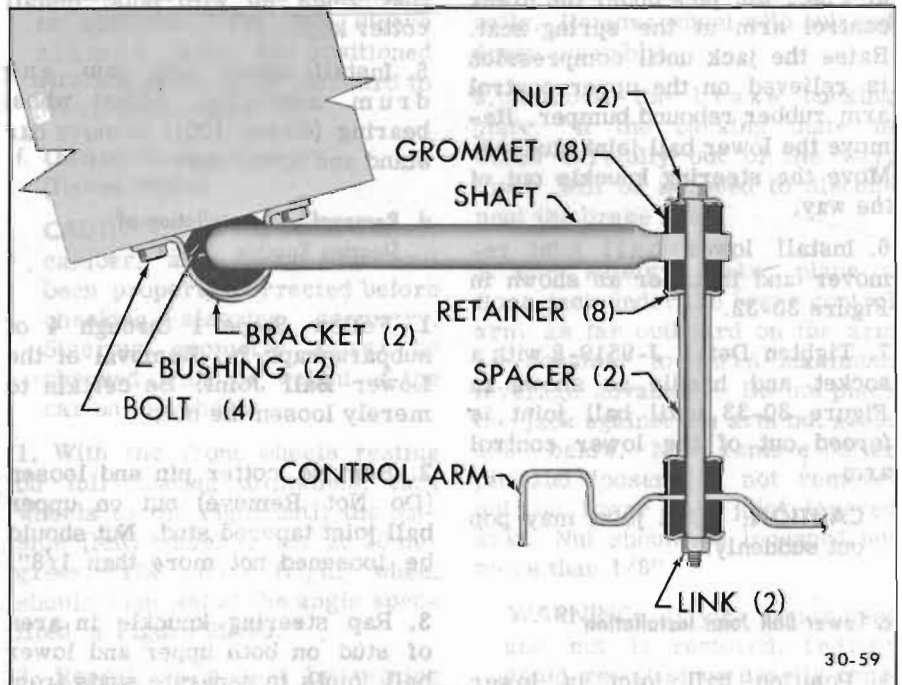

Figure 30-37—Stabilizer Link Installation
10. Reinstall stabilizer link and grommets. See Figure 30-37.
1. Remove nut from lower end of link. Remove link, spacer, retainers and grommets. See Figure 30-37.